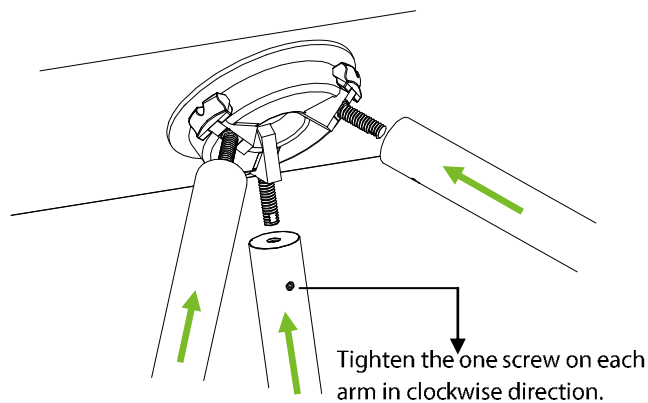

Figure 2-2
2. Insert the arms to the connection points, and use the Hex key to fasten the one screw on each arm, as shown in figure 2-2.